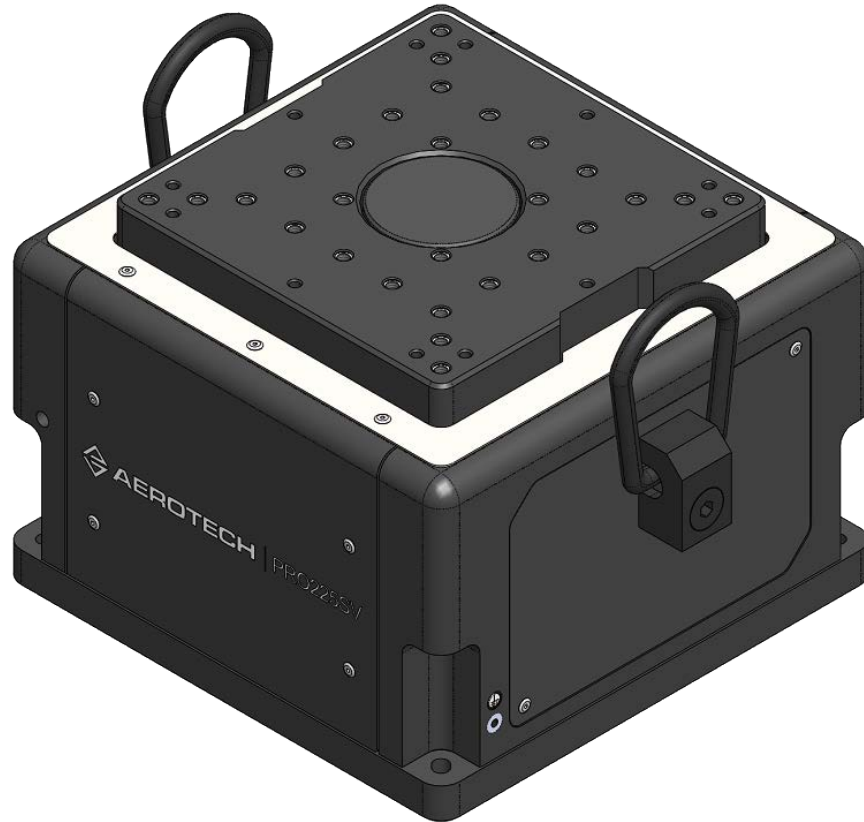

Figure 2-1: Lifting Features (PRO225SV shown)
- Use lifting hardware if it has been provided (refer to Figure 2-1).
The lifting kit includes two hoist rings. If the stage is equipped with the optional tabletop (-TT3), the tabletop must be removed before you install the hoist rings. To install, thread hoist rings into the designated holes (refer to Figure 2-1). If the stage is part of a multi-axis system, attach the lifting hardware to the lower axis. The lifting hardware must be removed before you operate the stage.